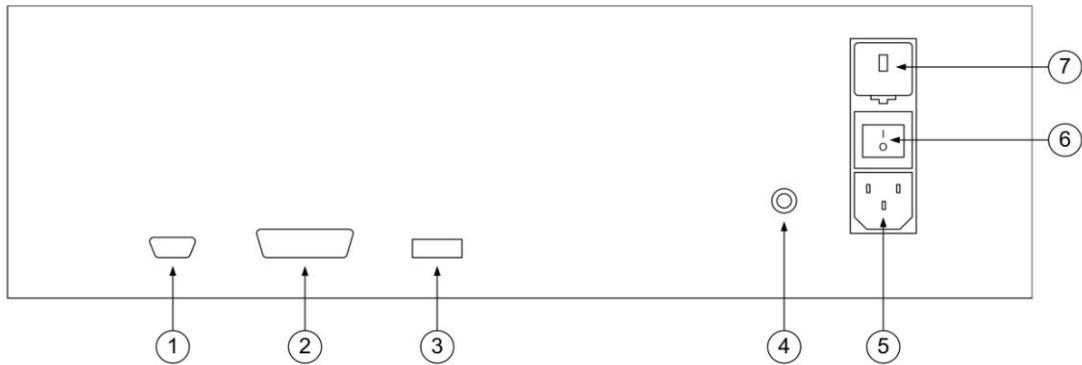

Figure 5 - Rear Panel
Figure 5 describes the rear panel layout.
- a) **Before** attaching the power cord to the rear connector, check that the line voltage selector is set appropriately for your location. The CED 7000 is shipped from the factory with the line voltage set for the country of purchase. To verify the line voltage setting, check the indicator on the power line voltage selector and fuse compartment cover; see figure 5 in section 2.5 for the location.
- b) Once the voltage selection has been made, making sure that the power switch is off, connect the AC power cord to the CED 7000; see figure 5 in section 2.5 for the location.